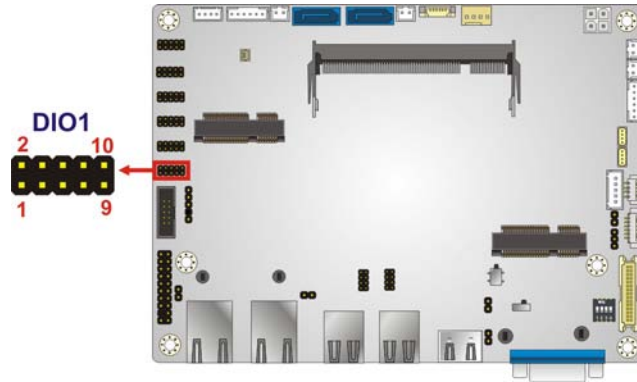

Figure 3-8: Digital I/O Connector Location
- CN Location: See **Figure 3-8**